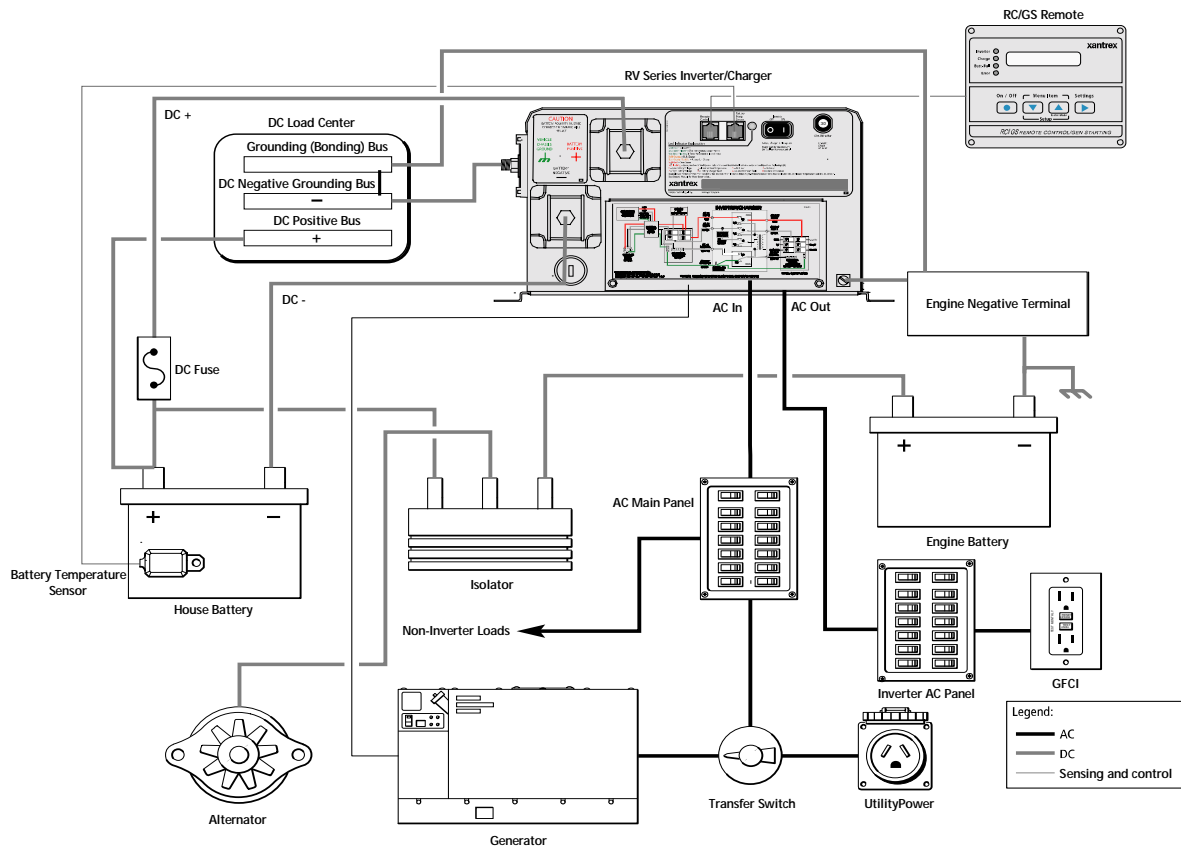

Figure 2-1 RV Electrical System Diagram
- Desktop (as shown in Figure 2-1)
For a successful installation, you need to plan the AC and DC wiring, as well as the remote control and generator connections. These connections are described in this section and illustrated in Figure 2-1.
Important: Figure 2-1 does not show all required grounding or over-current protection.